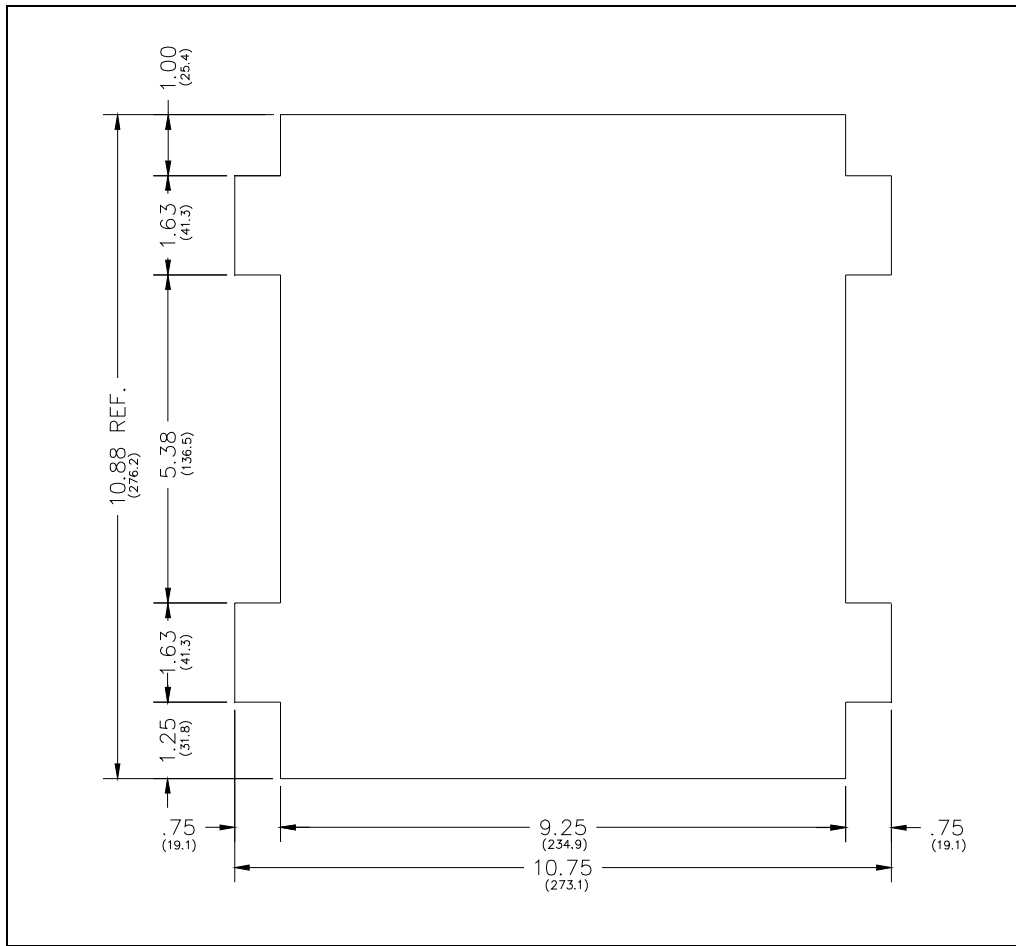

Figure 5. Wall Cut-out Dimensions for Model 295-001F
2. Use the cut-out dimensions as a guide to mark the wall and make the required cuts (See Figure 5).